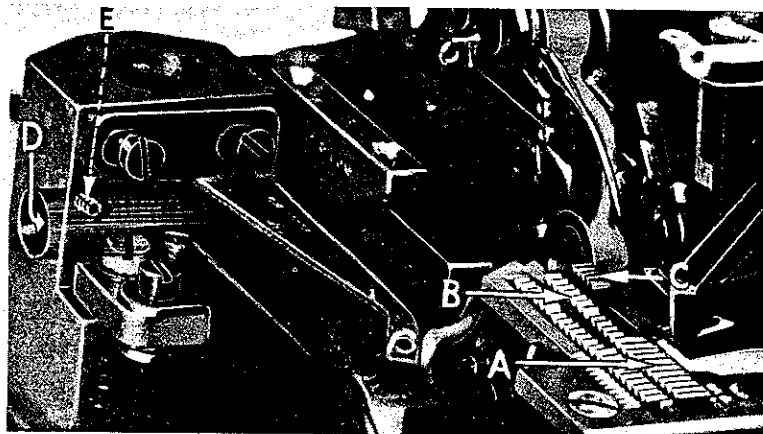

Fig. 12
On Style 39500 A set all three feed dogs (A, B, C, Fig. 12) so the top surfaces of teeth all lie in the same plane. This can be checked by sighting across teeth with a straight edge. Feed dogs should now be leveled with throat plate surface by rotating feed tilting adjusting pin (D). This pin raises or lowers the back end of both feed bars at the same time. The feed dogs should be set level at the time teeth first appear above the throat plate. Screw (E) locks feed tilting adjusting pin in place. Now set feed dogs so that teeth rise about $\frac{3}{64}$ inch above throat plate.